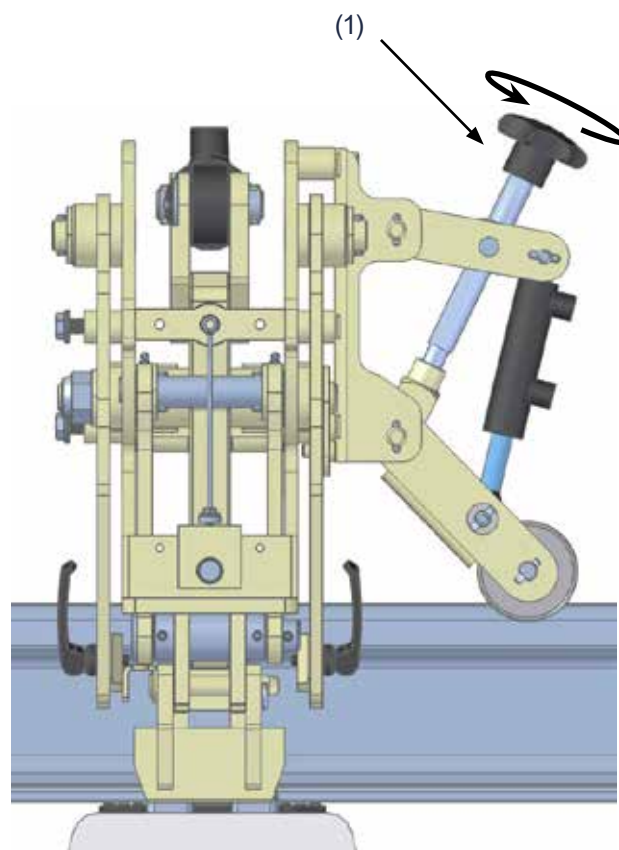

Fig 73.
3. Activate the dead-mans-handle and check that the clipping shoes are in the right height relative the clip. This depends on the type and dimension of the actual rail. If necessary, adjust the height of the work head with the adjustment screw (1) Fig 73.